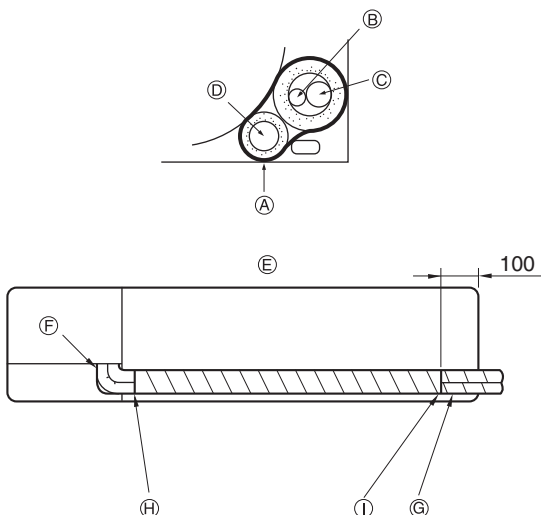

Fig. 4-5
4.4. Completing the piping (Fig. 4-5)
- (A) Felt tape
- (B) Liquid pipe
- (C) Gas pipe
- (D) Drain piping
- (E) Viewed from the back
- (F) Take care that the middle of the drain hose is not raised.
- (G) In the case of left piping, the refrigerant pipes and the drain pipe should be taped separately.